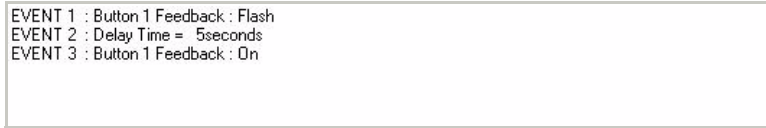

FIG. 56 Event Script window - Event 2 = Delay Time 5 seconds, Event 3 = Feedback On
5. Set the **Button Feedback** action to **On**, and add it to the script as **Event 3** (FIG. 56).